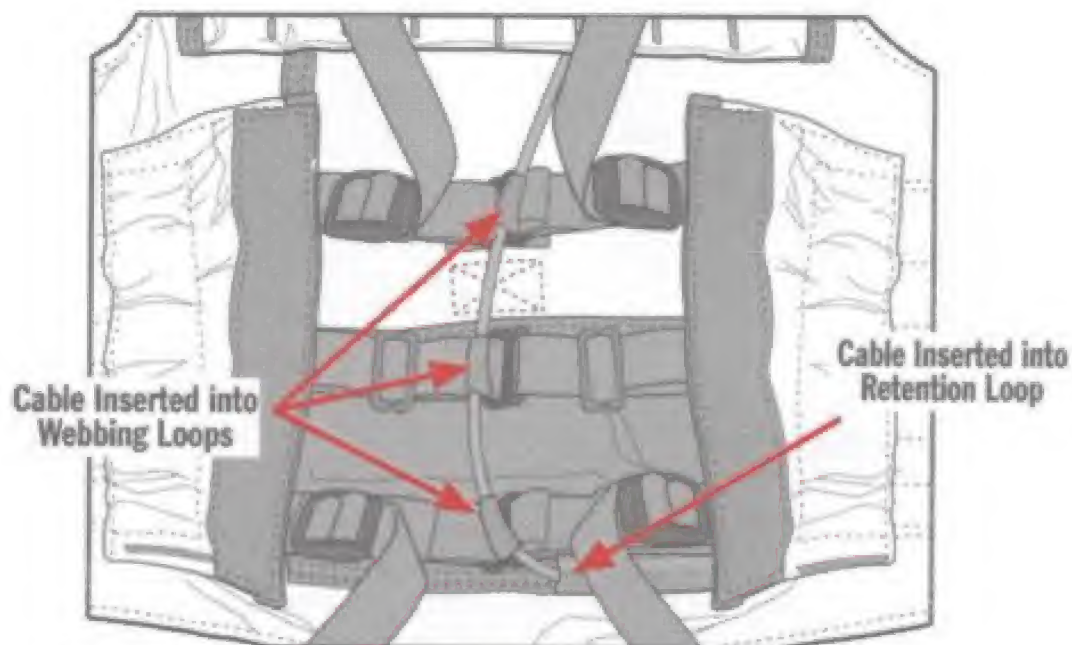

Figure 28. Position of the Right Wing Panel in Rear Carrier.
2. Insert the Quick-Release Cable into the Webbing Loops and the Retention Loop as shown in Fig. 28.